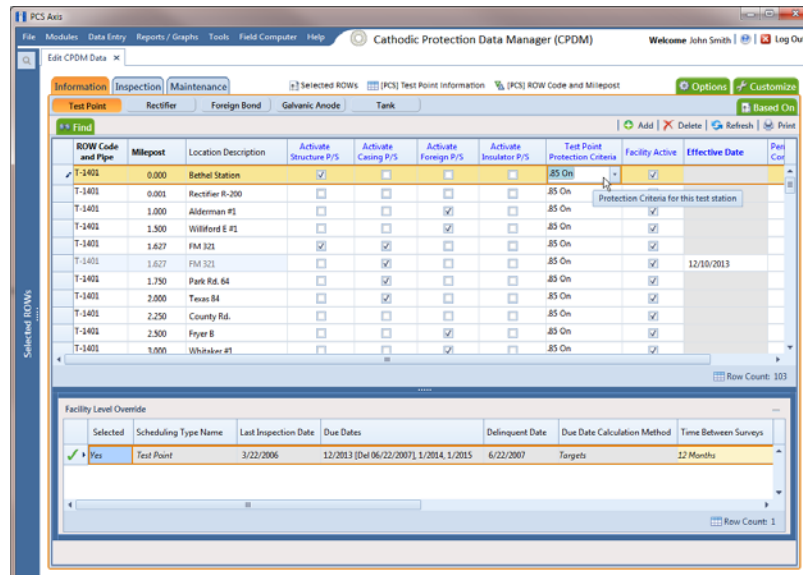

Figure 7-109. Test Point Information Grid
- 3 Open the *Test Point Information* grid. Click the **Information** tab  and then the **Test Point** button  (Figure 7-109).